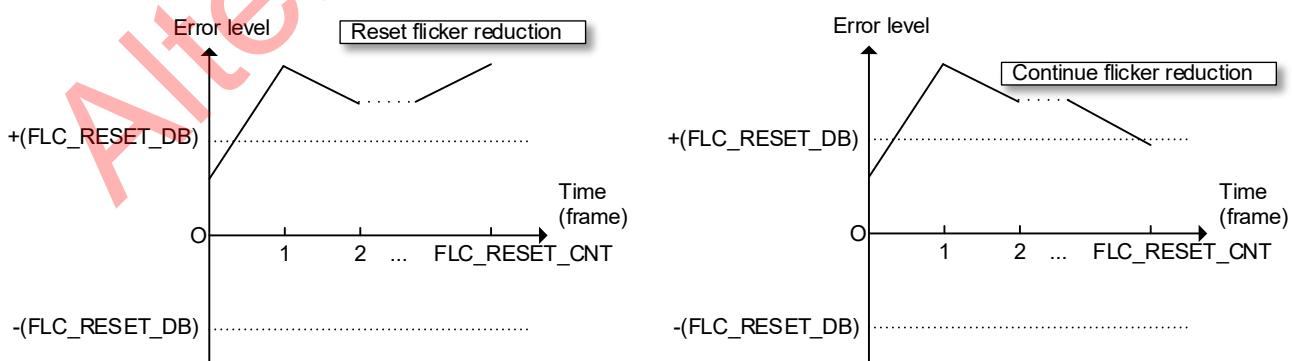

Figure 5-28 Flicker Mitigation Reset Function
- Apply this function in Flickerless AE mode in which a flicker mitigation reset is enabled as illustrated in "Figure 5-28."